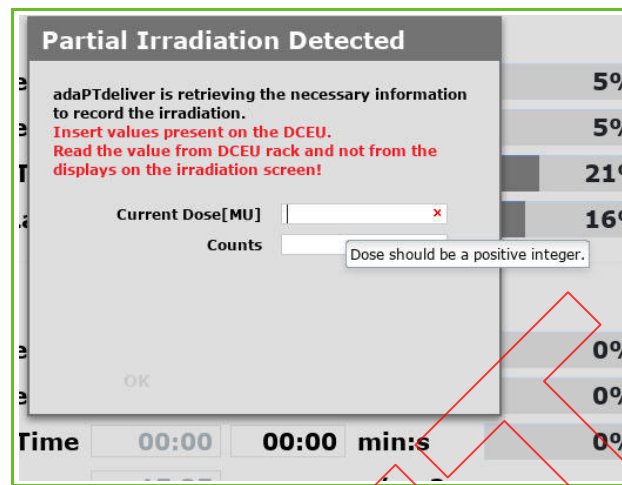

Figure 39-5. Recovery after termination by PTS - Automatic recovery process (online)
1. In the popup message, type in the values of the MU delivered and dose counts from the DCEU (Figure 39-5). Click **OK** to continue and proceed to section "Resuming Irradiation".